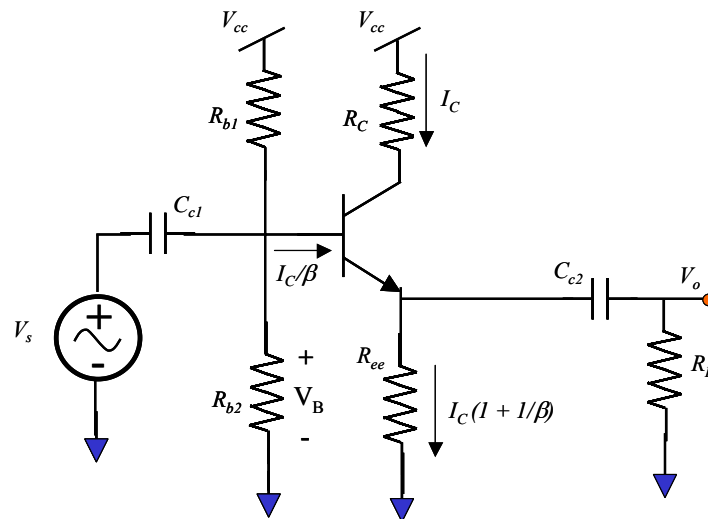

Figure 8-11: Modification of common-emitter amplifier in **Figure 8-10** to obtain an emitter-follower for question 5.
- 5) Change the common-emitter amplifier in question 3 to an emitter-follower amplifier by taking the output at the emitter as shown in **Figure 8-11**. Add a load resistance, R_L and an ac-coupling capacitor C_{c2} to the emitter follower, as seen in **Figure 8-11**. V_s is a 10kHz sine wave input with amplitude 50mV (100mV peak-to-peak). Estimate the gain and then measure it for values of $R_L = 100\Omega, 300\Omega, 1 \text{ K}\Omega$ and $10 \text{ K}\Omega$. Does driving a small load resistance ($100\Omega, 300\Omega$) affect the ac gain of you circuit? Why is this circuit beneficial? Could you drive the same small load resistance with a common-emitter? Why or why not?